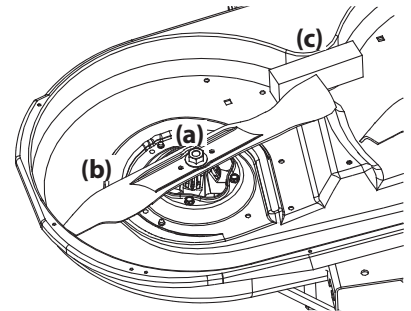

Figure 58
2. Use a 15/16" wrench to hold the hex nut on top of the spindle assembly when loosening the hex nut (a) securing the blade (b). A block of wood (c) may be placed between the deck housing and the cutting edge of the blade (b) to help in breaking loose the hex nut (a) securing the blade. See Figure 58.